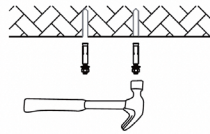

FIGURE 4
2. Fix screws into the holes with a hammer (Figure 4).